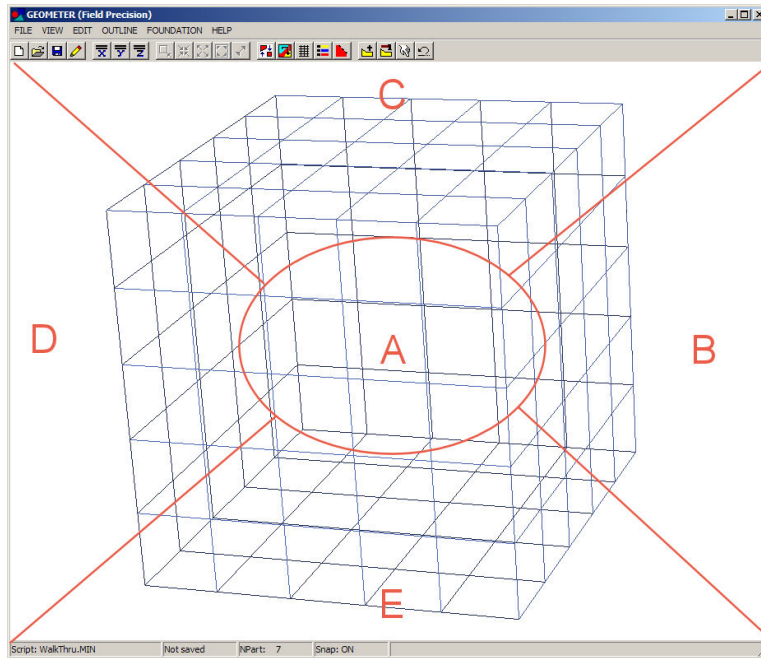

Figure 49: Active areas for mouse control of the 3D view.
The method to control the three-dimensional display with the mouse is identical to that used in **MetaMesh**. Figure 49 shows the active areas of the screen. The central zone (A) is used for zooming in (left button) and out (right button). Hold down the left mouse button in zones B, C, D and E to walk around the object. Hold down the right mouse button in zones B, C, D and E to move the viewpoint to the right, upward, to the left and downward. Note that changes are reflected in the orientation box in the upper-right portion of the screen. The plot is updated when you release the mouse button. You can control additional aspects of the three-dimensional view with the commands of the *Adjust view* popup menu.